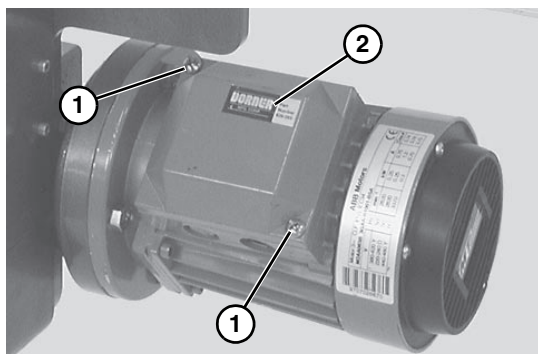

Figure 17
- a. Loosen terminal box screws (Figure 17, item 1) and remove cover (Figure 17, item 2).